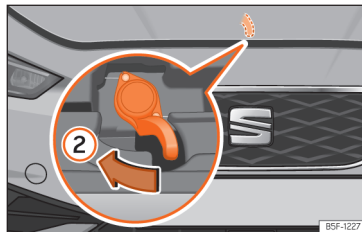

Fig. 220 Lever under the bonnet.
- To lift the bonnet, press towards the left on the lever located under the bonnet, in the centre »»» Fig. 220 ②. The fastening hooks are unlocked.